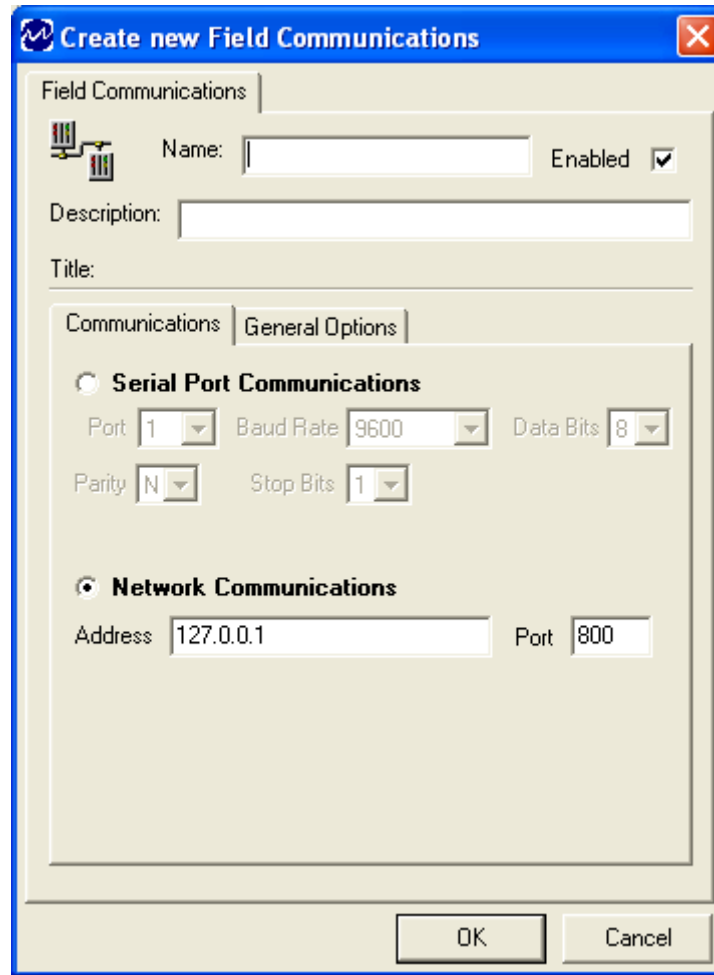

Figure 10 - Create New Field Communications Window (Communications Tab)
The **Create New** window (Figure 10) displays the settings available for a new object.
Figure 10 displays the **Create New Field Communications** window with the **Communications** tab selected. This tab allows you to select the method of communication and communication parameters.
5. The **Create New** window appears (Figure 10).